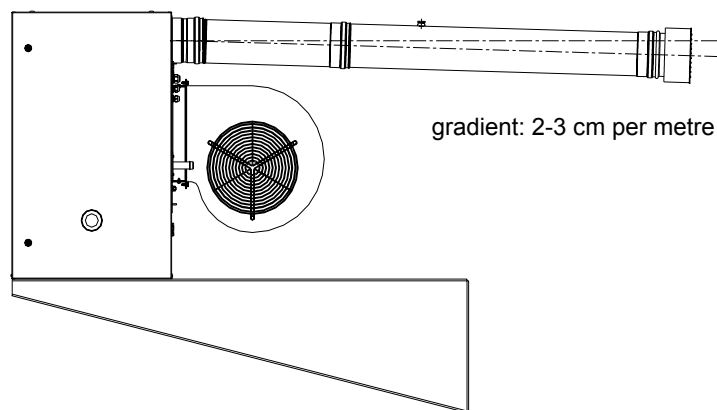
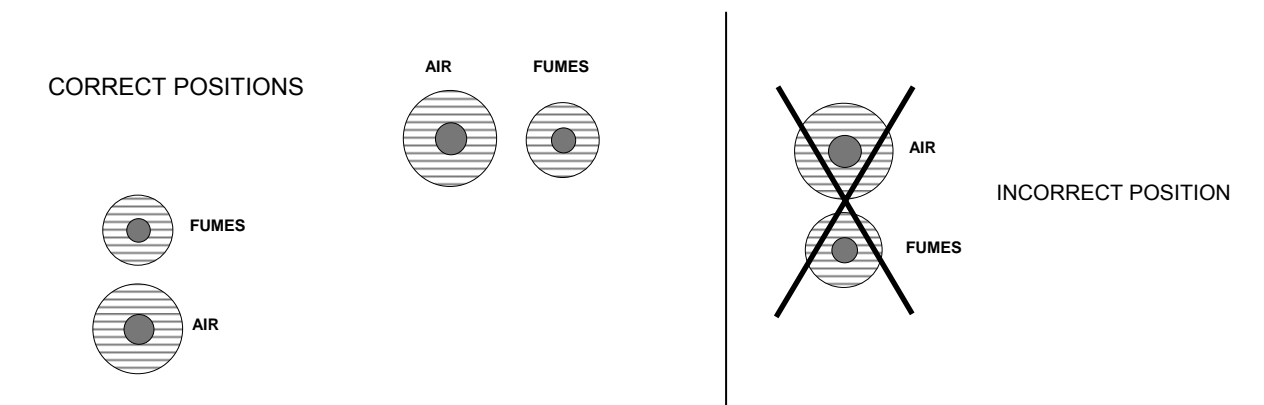

Figure 10 – Horizontal pipe gradient
Figure 13 – Position of wall terminals
- ☞ If horizontal flue pipes over 1 metre long are installed, in order to prevent the potential formation of drops of condensate reaching the appliance it is necessary to install the flue pipe with a counter-gradient of 2 or 3 cm for each metre of its length (see Figure 10). In addition, in order to install the external flue terminals and combustion air intake terminals correctly, follow the instructions given in Figure 13.